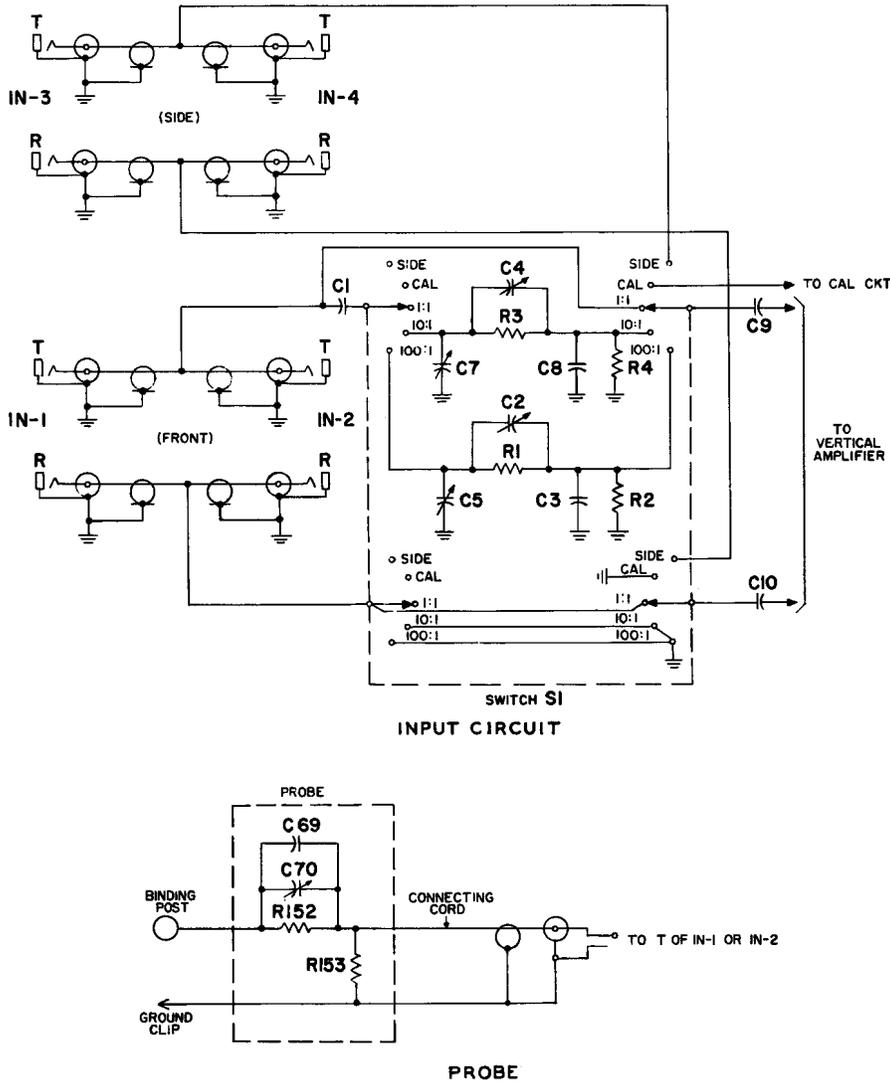

Fig. 5 — List 4 Oscilloscope Input Circuit and Probe
4.01 The input circuit provides for the connection of signals either balanced or unbalanced. (See Fig. 5.) Multiple jacks are provided for terminating purposes, as indicated in Tables A and B, Paragraph 5.06 (a).